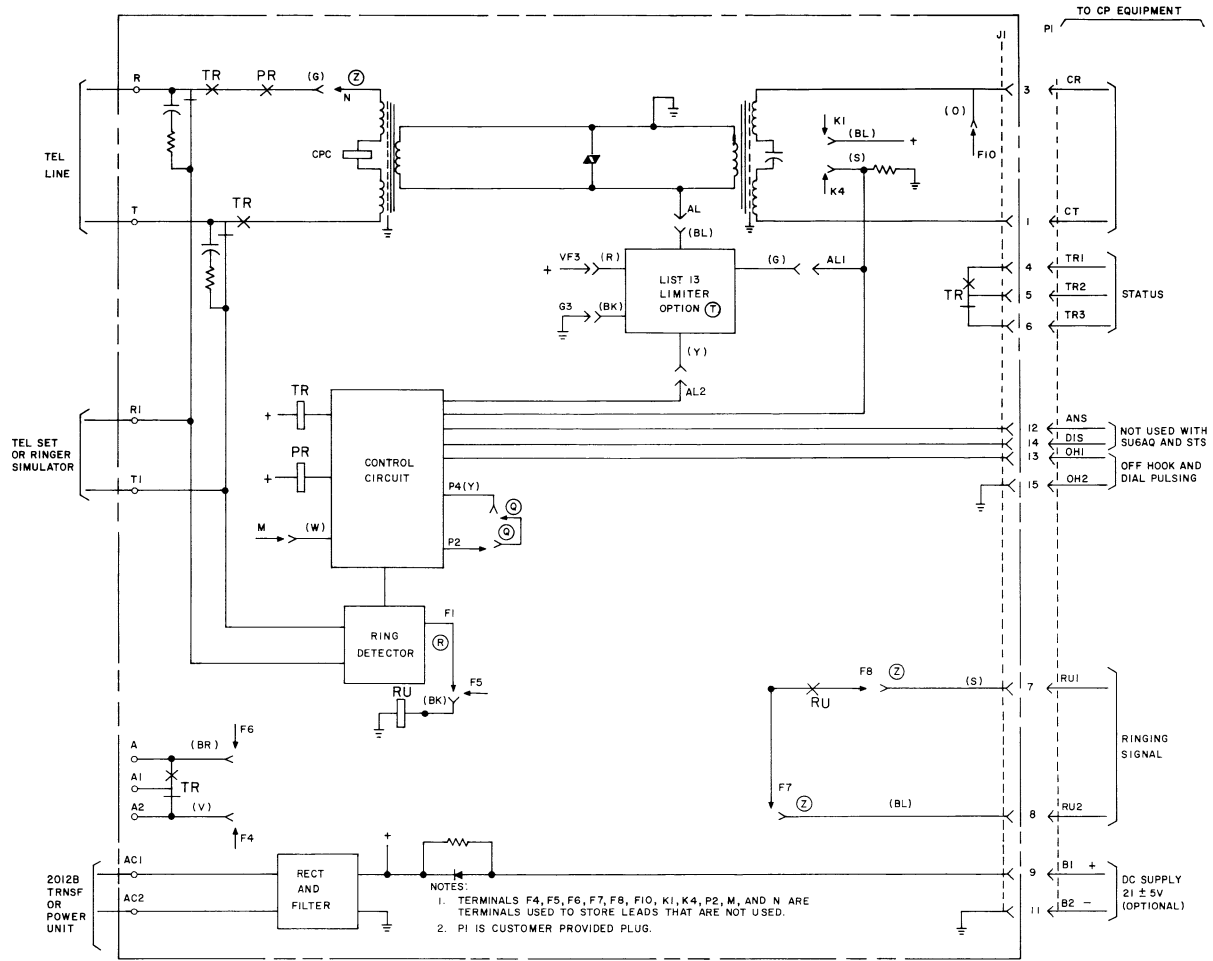

Fig. 6—KS-20721 Station Coupler, Internal Wiring Options
**4.01** The KS-20721, List 1 station coupler (Fig. 6) consists of a 20-Hz ringing signal detector operating ringup (RU) relay, a supervisory control circuit operating line transfer (TR) relay, dial pulsing (PR) relay, CPC relay, a transmission circuit